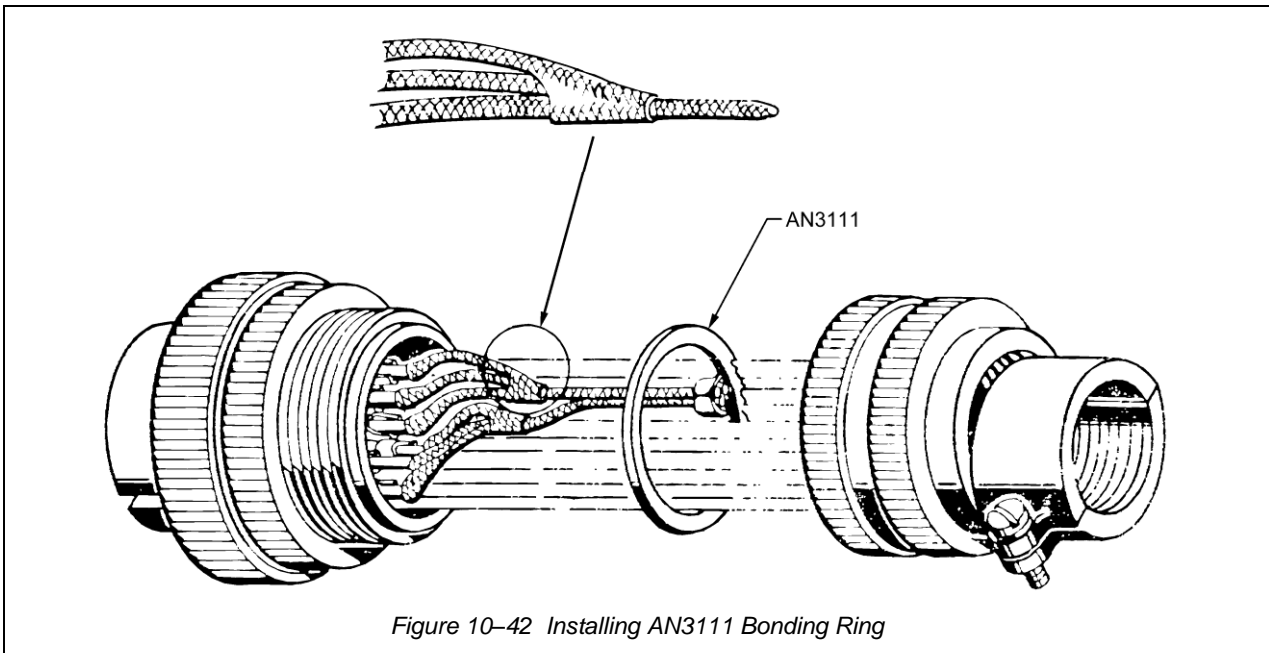

Figure 10-42 Installing AN3111 Bonding Ring
- c. Make a hole in one shield and expand it to hold up to three other shields as shown in Figure 10-42. Tighten the expanded shield around the others and seat solder together. Repeat as necessary for number of shields to be grounded.